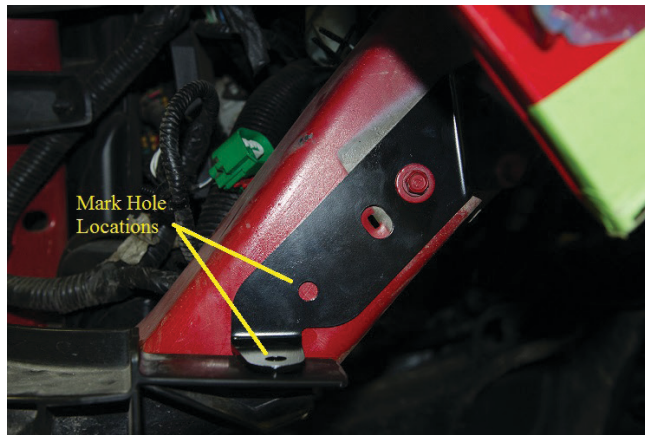

Figure 24
- F. Mark the second hole for nutsert on metal framing and a third hole on the lower headlight plastic framing (fig. 24).